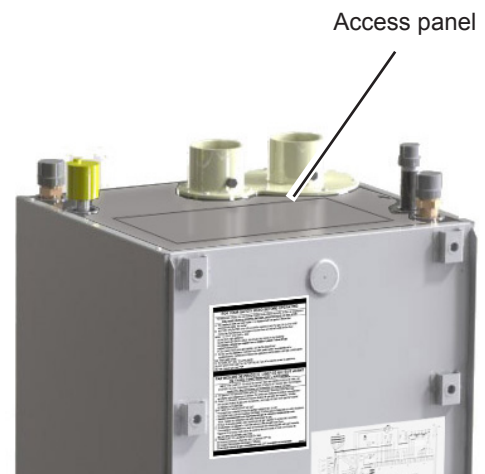

Fig. C4-2 - Access panel on top of unit
6. With the blower removed, the small panel on the top of the unit will allow access to the end of the burner. See Fig. C4-2. Lift the burner up and away from the combustion chamber.